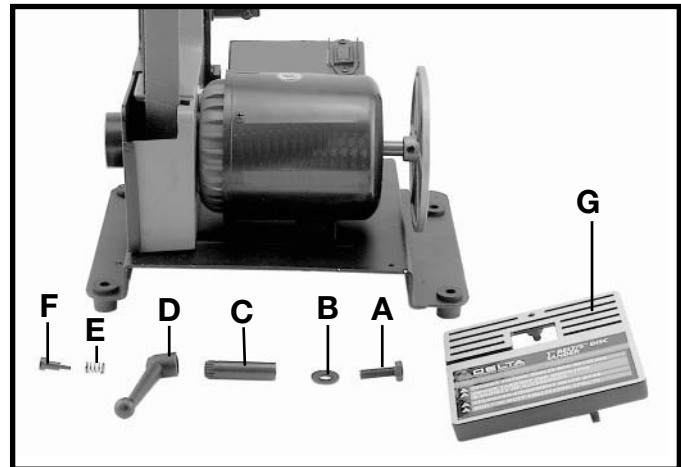

Fig. 2
2. Locate the M8x1.25x30mm hex head screw (A) Fig. 2, M8.4 flat washer (B), and table locking handle assembly (C), (D), (E) and (F). **NOTE:** The table locking assembly (C, D, E, and F) is shipped assembled. For ease in assembling table to sander, remove screw (F), spring (E), and handle (D) from locking stud (C).